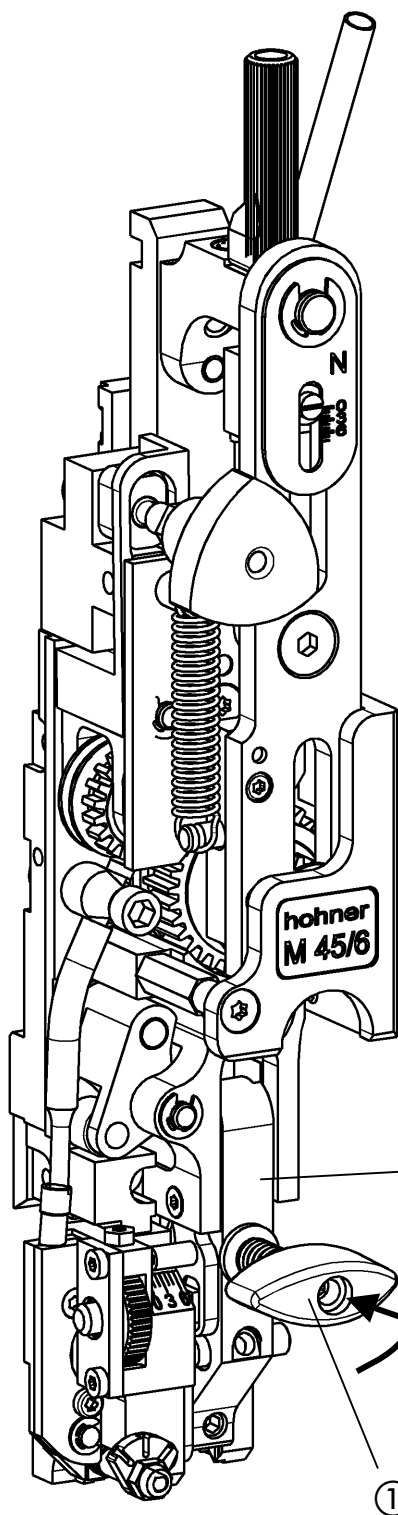
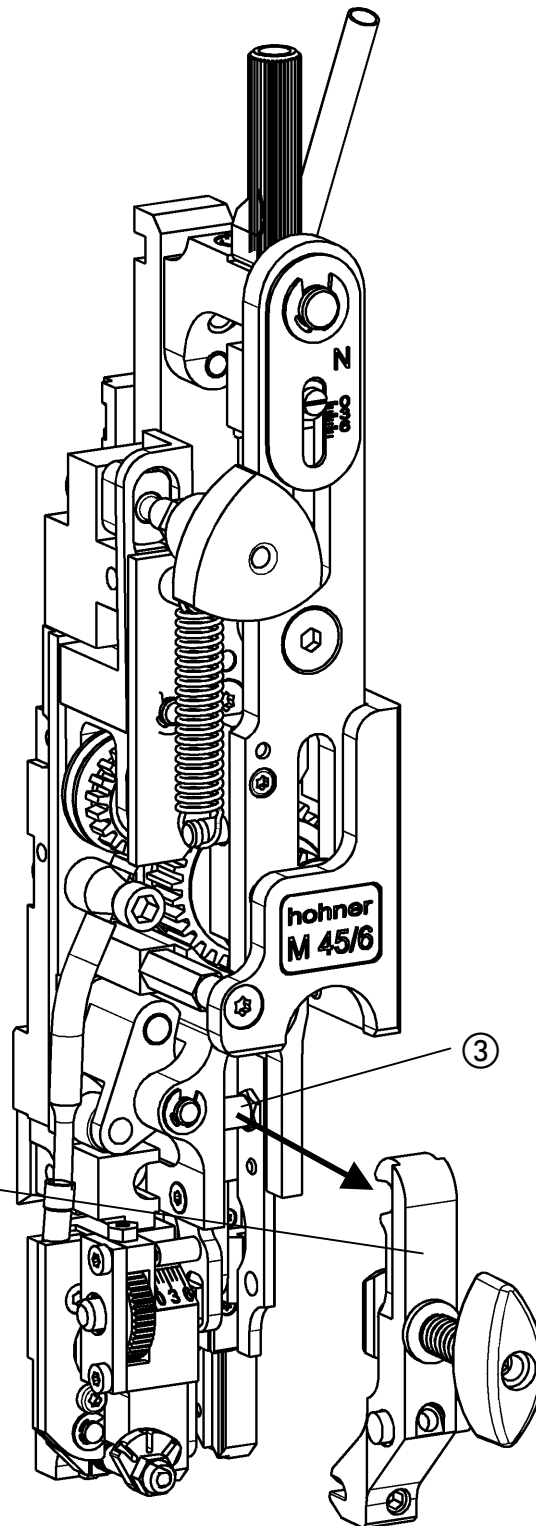

Fig. 19
Fig. 20
- Fig. 19, Fig. 20 -
- Push in clamping handle ① slightly and rotate by 90°. Remove former ② forwards.